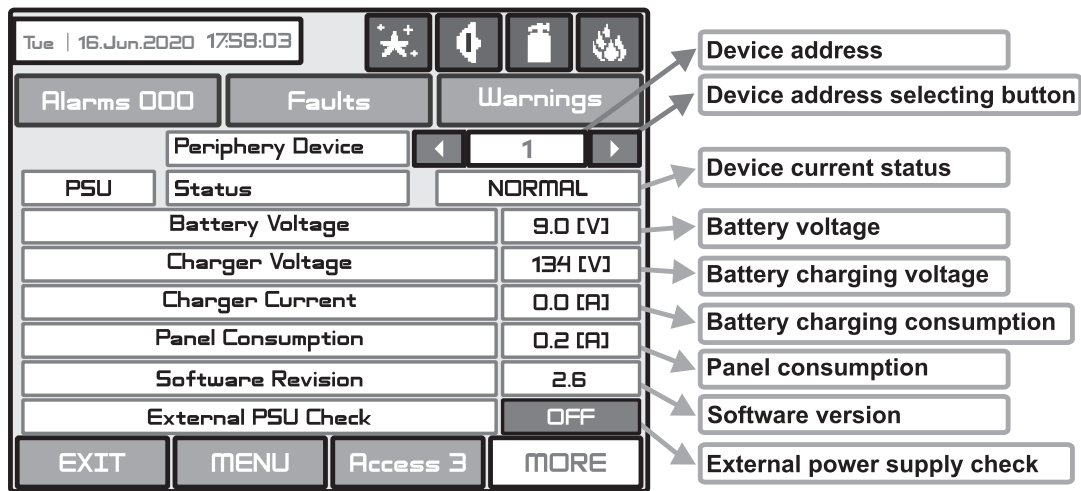

Fig. Screen 5 PSU Parameters (Power source)
Choosing “**Periphery**” button leads to submenu for entering the parameters of the available periphery devices in the system configuration - Fig. Screen 5. The list of supported periphery devices is:
- **PSU** Power source - see Fig. Screen 5
On the PSU screen are visible the current technical characteristics of the main power supply unit - see Fig. Screen 5. *“External PSU Check” setting button.* This is an option for continuous monitoring and reporting for Fault condition in the external power supply unit - see Figure 17. The external power supply unit (IRIS PS72 for example) is connected to “Fault In” and “Fault Out” terminals of the main power supply unit. When the option is Enabled (ON), the status of the external power supply is monitored. The panel will display a fault message “External Power Supply Fault, Peripheral Device 1-PSU” in case of any trouble with the external power supply unit.